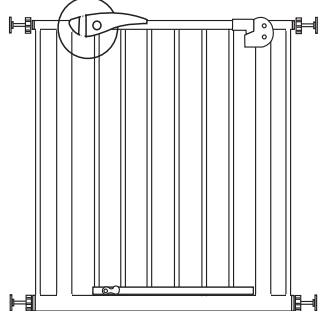

Figure 2-1
1. Before the installation is completed, the opening is not closed! (Reference to Figure 2-1)